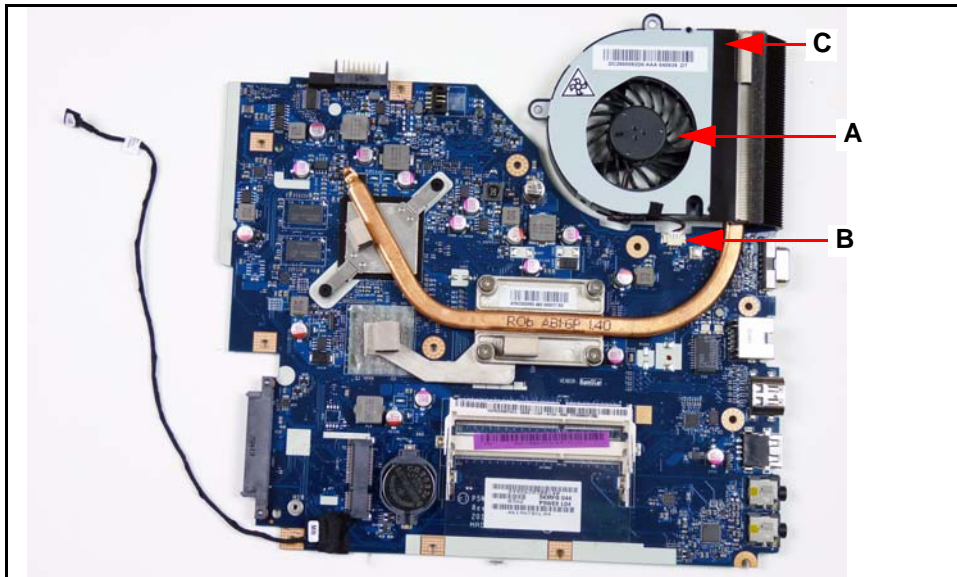

Figure 3-32. Fan Location
1. Find fan (A) on mainboard. (Figure 3-32)
2. Disconnect fan cable from mainboard connector (B). (Figure 3-32)
3. Remove adhesive tape (C) securing the fan to the heatsink. (Figure 3-32)
1. Put flat edge of fan next to heatsink. (Figure 3-32)
2. Secure fan to heatsink with adhesive tape (C). (Figure 3-32)
3. Connect fan to mainboard connector (B). (Figure 3-32)
3. Install and secure four (4) thermal screws (B) in numerical order from one (1) to four (4) to mainboard. (Figure 3-32)
4. Install and secure two (2) captive screws (C) to mainboard. (Figure 3-32)